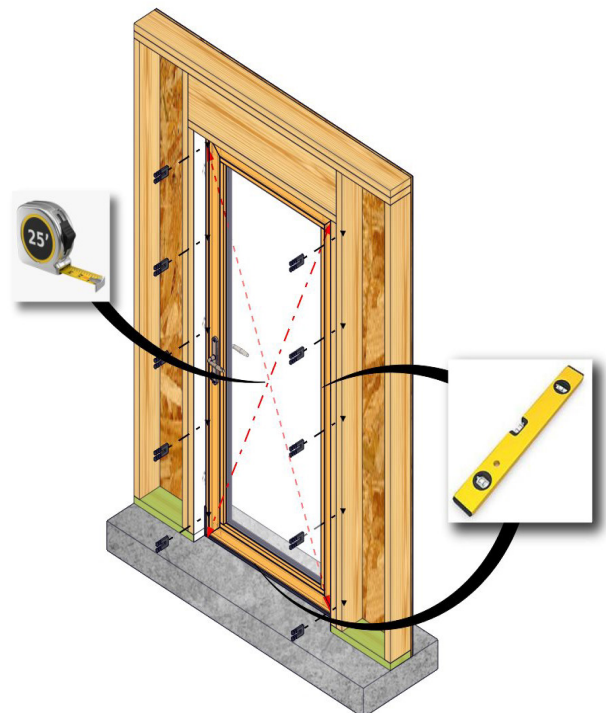

Fig. 9
5. From the interior, square the frame in the opening by installing shims between the jambs and framing. (Fig. 9)